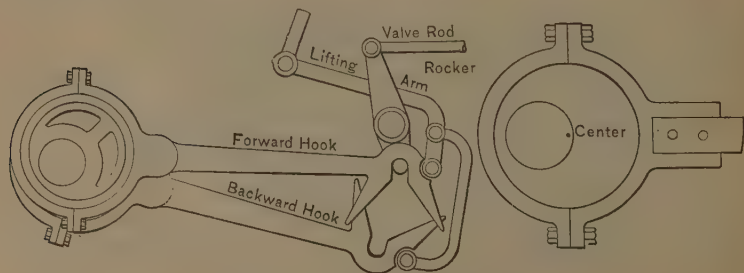

Fig. 152. Hook Valve Motion.
A. As seen in one form in Fig. 152, an arrangement in which throwing the lever forward held the backing hook out of reach of the rocker pin and let the forward one drop in. There was a starting bar to move the valve until the hook dropped in, or to enable working the engine entirely by hand.